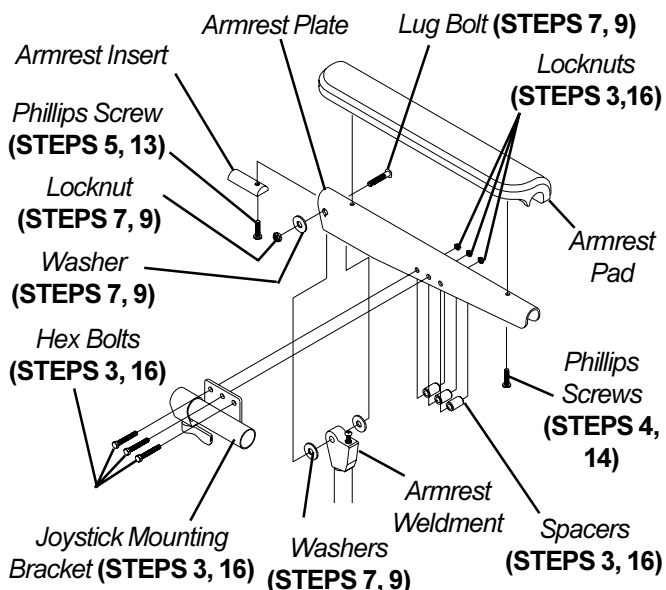

FIGURE 1 - REPOSITIONING MKIV JOYSTICK -
VAN SEAT MODELS (FIGURE 1)**
3. Remove the three (3) hex bolts, spacers and locknuts that secure joystick mounting bracket to armrest plate.
9. Position armrest plate with joystick mounting holes on desired side of armrest weldment and secure with lug bolt, washers and locknut. Refer to FIGURE 1 for correct hardware orientation.
10. Position armrest plate without joystick mounting holes on opposite side of the armrest weldment and secure with lug bolt, washers and locknut. Refer to FIGURE 1 for correct hardware orientation.